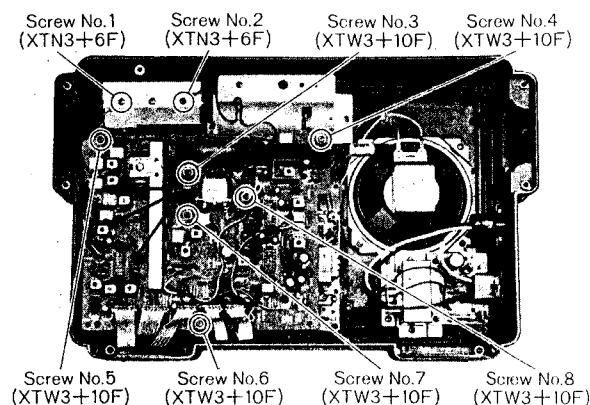

Fig. 2
6. Remove the eight (8) screws (nos. 1~8) for the PC board, as shown in fig. 2.